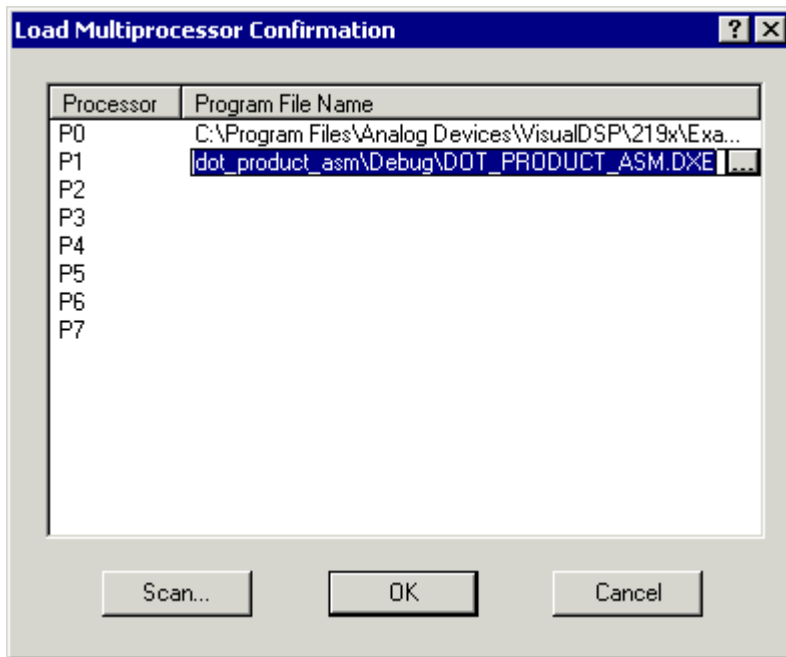

Figure 3-45. Load Multiprocessor Confirmation Dialog Box:
- c. Double-click dot\_product\_asm.dxe to place the path to this program into the P1 row of the **Load Multiprocessor Confirmation** dialog box (see Figure 3-45).